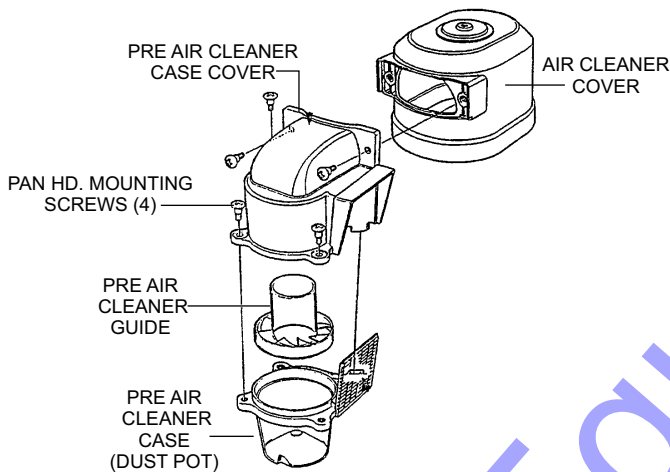

Figure 21. Removing Dust Pot
1. Remove the four pan head screws that secure the dust pot to pre air cleaner case cover (Figure 21).